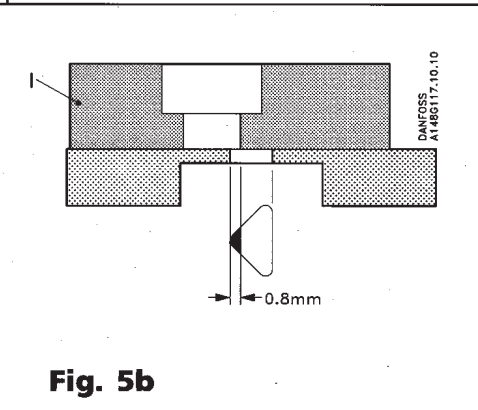

Fig. 5b
- 4) Place the slide pos. I (fig. 5b) so that the nozzle has an opening of 0.8 mm., and at the same time so that the opening degree of the